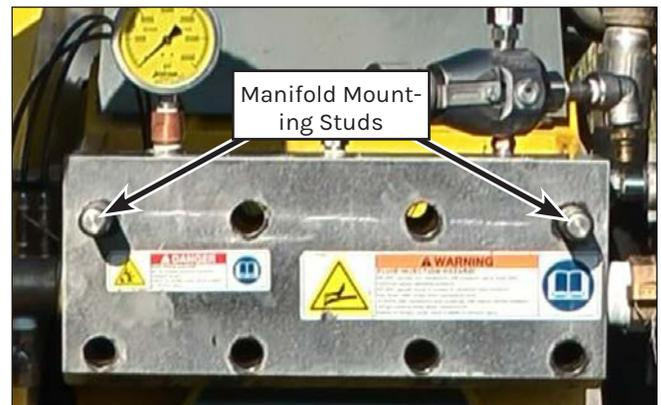

Figure 70: Lift the New Manifold onto the Mounting Studs.
20. Lift the new manifold onto the manifold mounting studs (Figure 70).